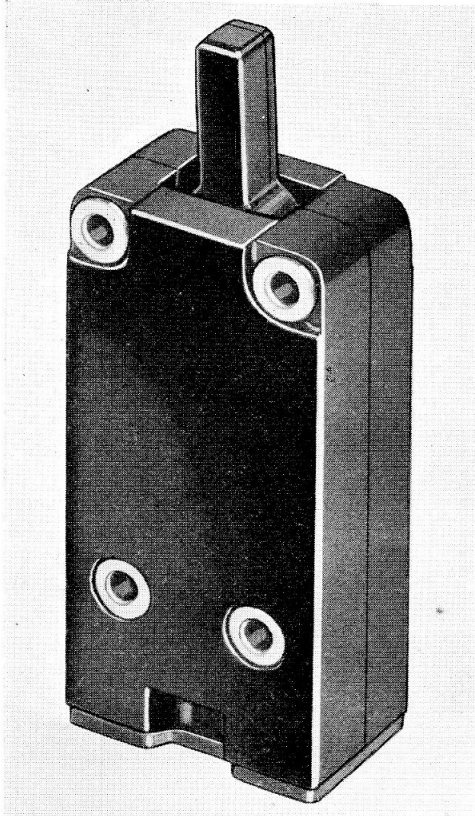

Fig. 1. Typical D7900 series switch
2. A typical switch in the series is illustrated in fig. 1 and 2. All the moving parts of the switch (fig. 2) are set between the two side plates of a switch frame assembly. The dolly with its actuator is pivoted at the top while at the bottom, a common terminal post is fitted. The two moving contact linkages are situated on either side of a central spacing post. Each linkage consists of an actuating arm, which engages the actuating dolly through a roller and is kept against the dolly by a torsion spring, and a moving contact arm. These